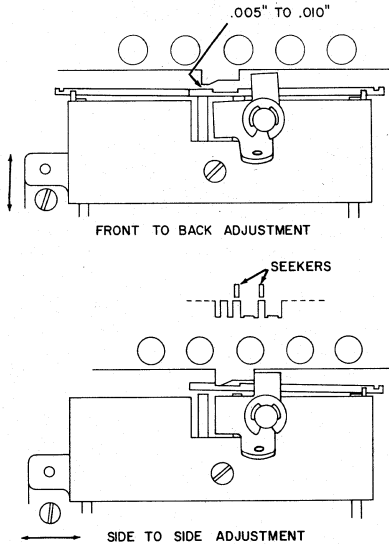

Figure 7
4. Loosen the screws (slightly) that mount the magnet yoke assemblies to the bed of the translator and position the yokes so they are parallel to the permutation bars and there is .005" to .010" clearance between manually attracted armatures and the latching surfaces of the permutation bars (Figure 7). Note that the right hand armatures will be .004" closer to the permutation bars at the heelpiece due to the difference in the air gaps. The yoke assembly itself should be parallel.